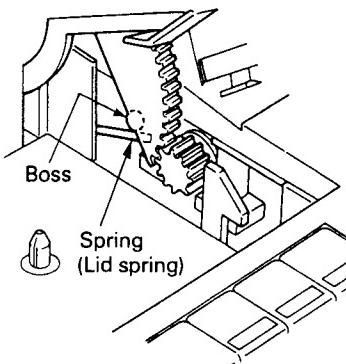

Fig. 3
- Securely hook the boss of the cassette lid at the spring as shown in Fig. 3.